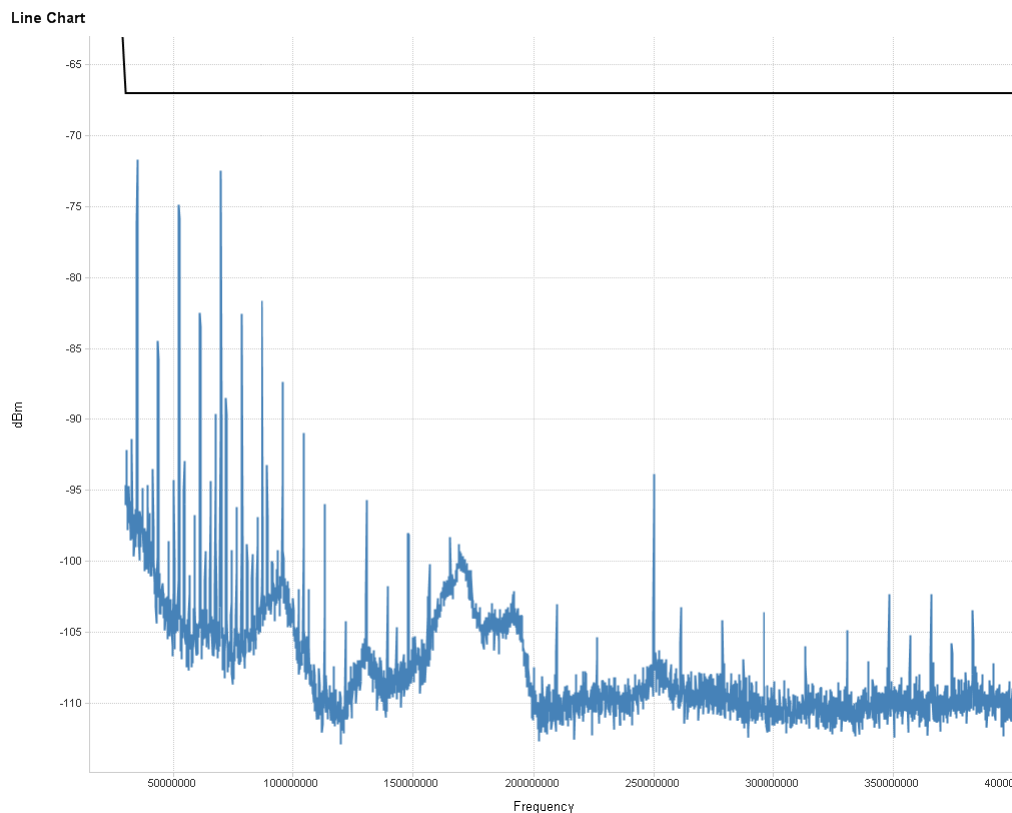

Figure 6. Emission Spectrum for 115.2kbps Transmission: 30MHz to 400MHz
12. A spectrum for higher frequency ranges can be checked. If the signal is captured then the dynamic range of the spectrum analyzer will limit the noise floor performance. To improve the measurement a high pass filter has been used to remove the signal content while leaving the emissions content unaffected in the emission spectrum plot from 30MHz to 400MHz shown in Figure 6.